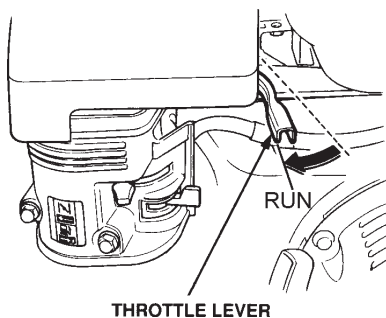

Figure 14. Throttle Lever (Run)
10. To begin pumping, place the throttle lever (Figure 14) in the **RUN position**. If water is not flowing out of the discharge port, turn off the engine and check for and clear any obstructions within the suction hose.